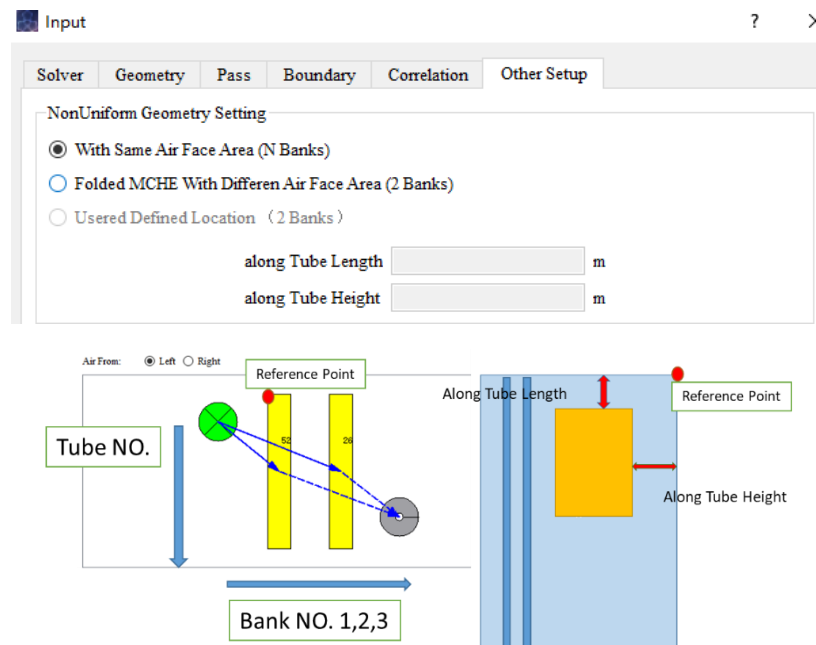

Figure 2.9 Non-Uniform Geometry Type
There are three types for non-uniform geometry. After completing the data input, user need to select the corresponding type in "Other Setup" (as shown in Figure 2.9), including:
3. For the parallel refrigerant flow, the rear bank area is smaller than the front one. The relative position need to be defined (UDL). The location definition "along Tube Length"/"along Tube Height" is shown in Figure 2.9.
of parallel refrigerant flow is shown in Figure 2.9. Users need to set the corresponding flow type in the “Refrigerant” page (Figure 2.10):